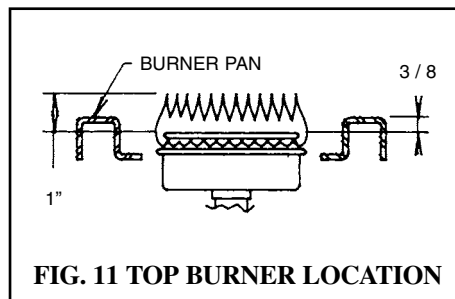

FIG. 11 TOP BURNER LOCATION
**Standard top burners . . . Be sure the shipping screws have been removed from the burners.** The correct positioning should place the top of the burner head approximately 3/8" below the cooking surface. See Fig. 11.